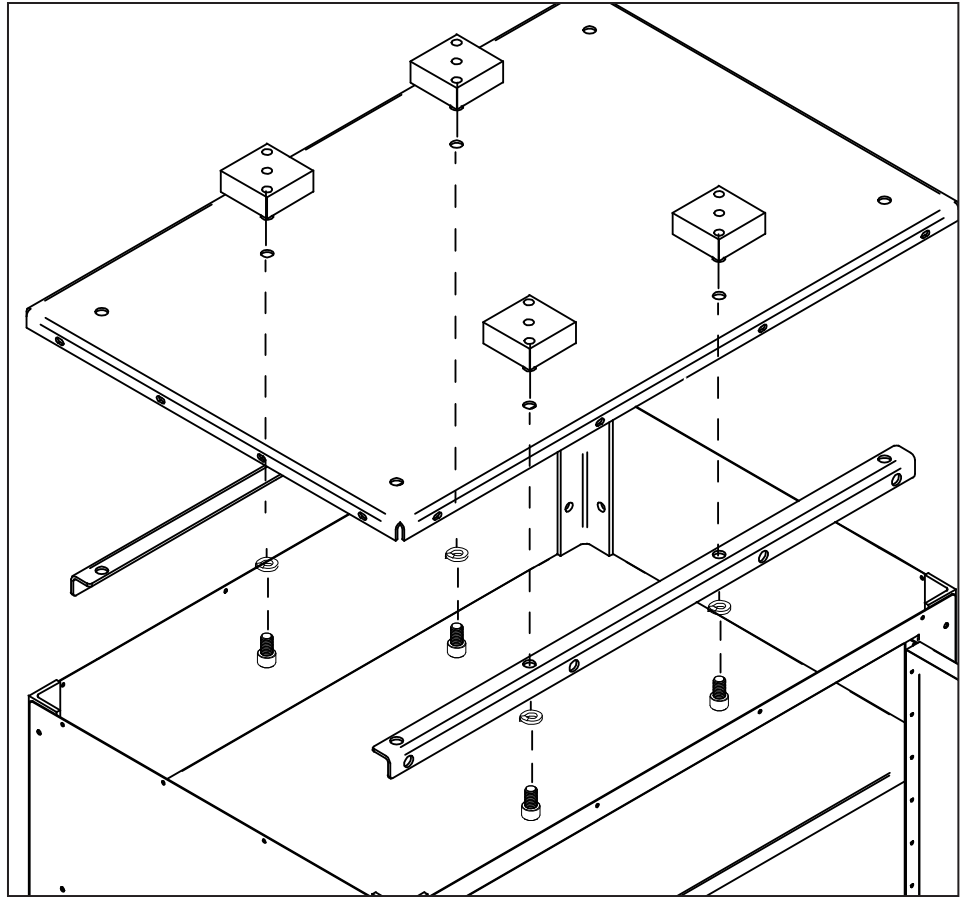

Figure 7
7. Place four Mounting Blocks on stand and align each with pre-drilled holes in stand top (see **Figure 7**).
8. Place one Upper Support underneath stand top with support angles oriented as shown in **Figure 7**; align with pre-drilled holes in stand top.
9. Using two M12 x 20 mm Socket Head Cap Screws and two M12 Lock Washers, attach Upper Support from underside of stand top into two Mounting Blocks (see **Figure 7**).